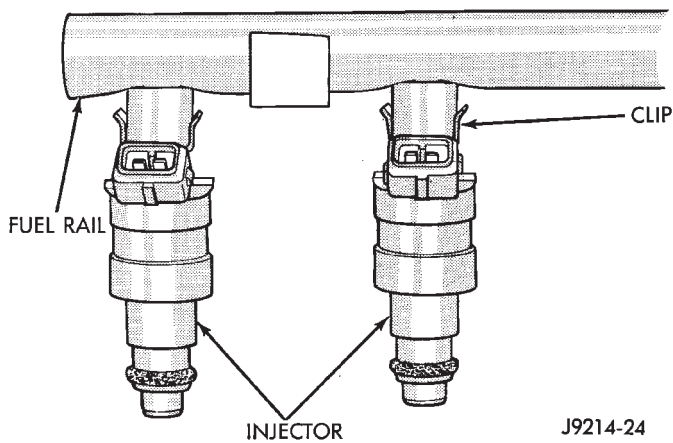

Fig. 5 Injector Retaining Clips
- (1) Remove the fuel rail. Refer to Fuel Rail Removal in this section.
- (2) Remove the clip(s) that retain the fuel injector(s) to the fuel rail (Fig. 5).